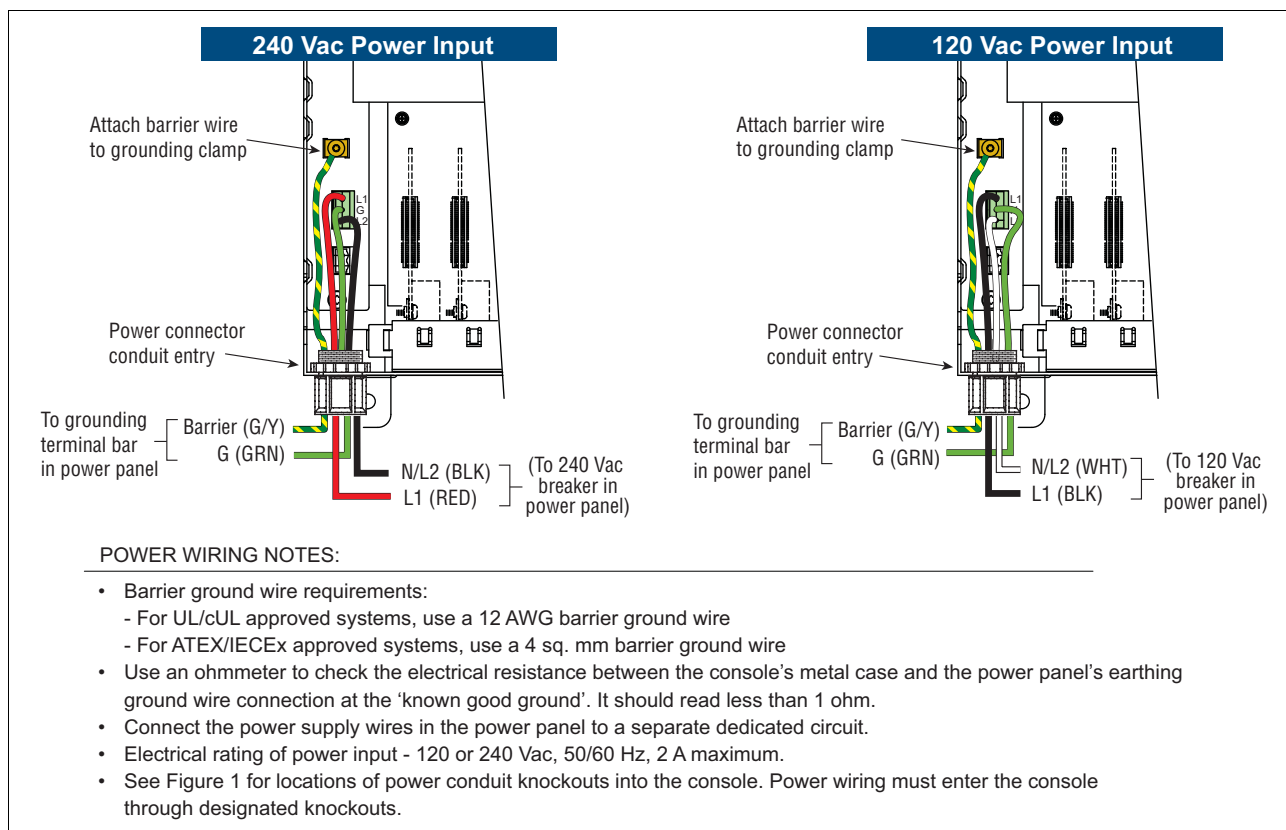

Figure 2. Wiring AC Power To The TLS-450/TLS-450PLUS Consoles
4. Connect the input 120 or 240 Vac power wires as shown in Figure 2.